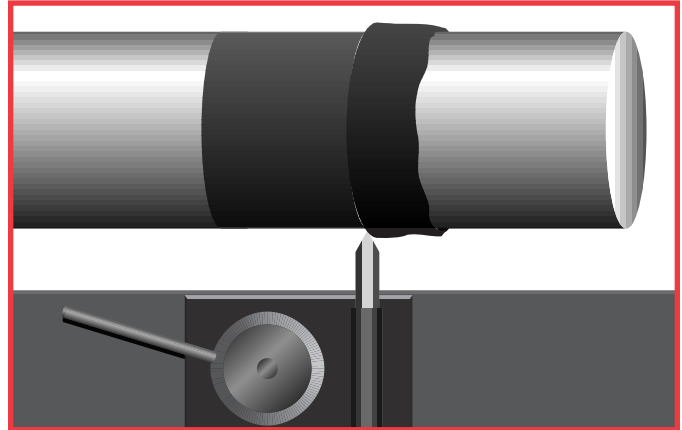

Figure 18. Machine the epoxy to the original dimensions of the shaft.
4. **Machine the repair** to the required dimensions using the guidelines below. (See figure 18)